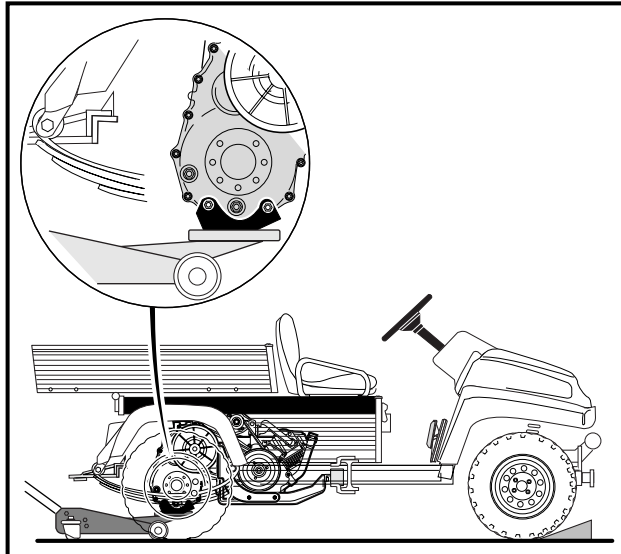

Figure 9-2 Correct Positioning of Floor Jack
3. Chock the the front wheels and lift rear of vehicle with a chain hoist or floor jack. If using floor jack, place jack under transaxle as shown (**Figure 9-2, Page 9-3**). **See WARNING "Lift only one end..." in General Warning, Section 1, Page 1-2**